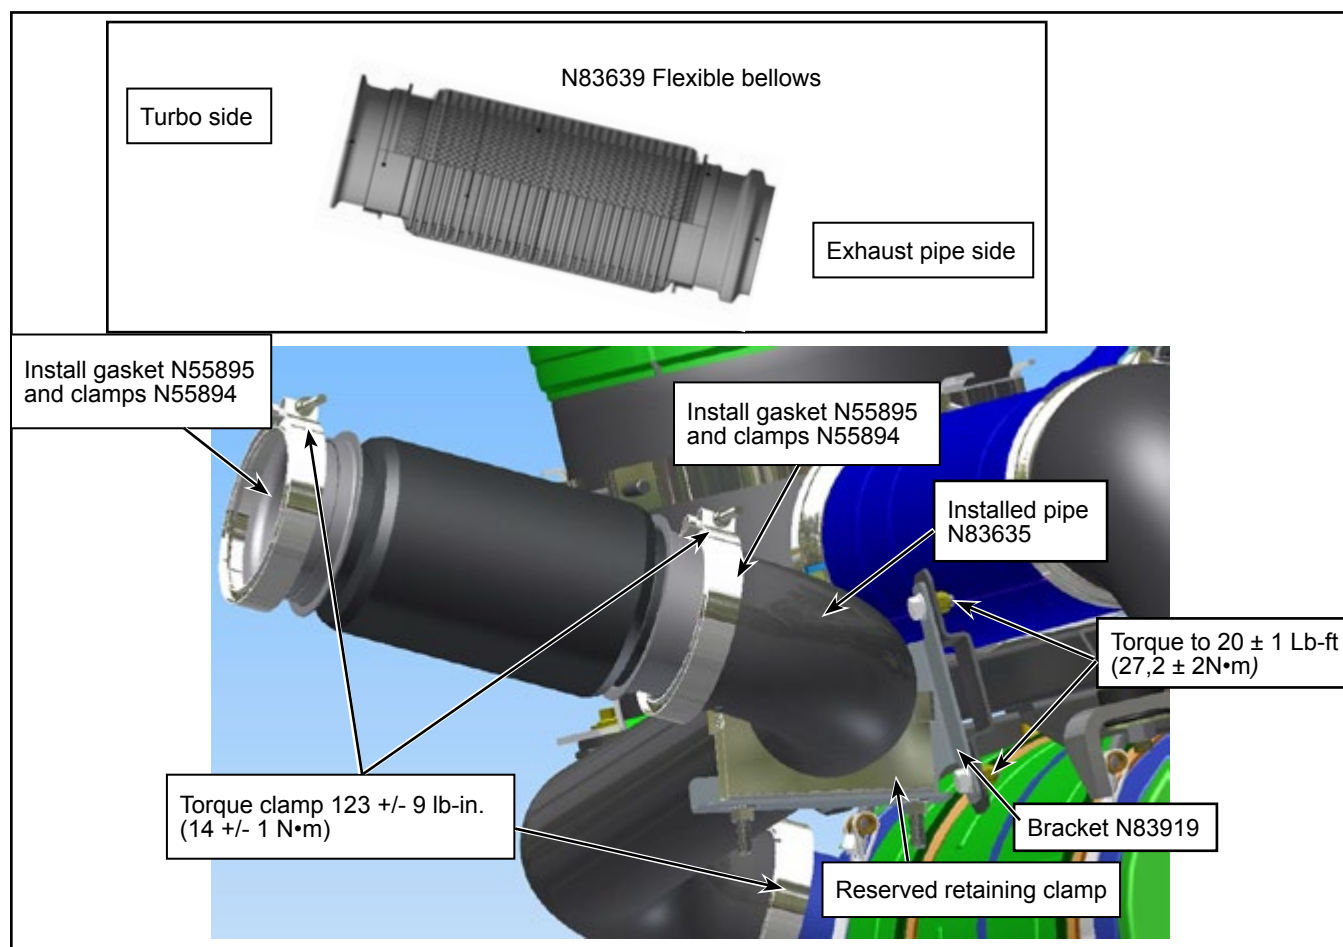

Figure 4 - Installation of the Flexible Bellows
- 1.10. Affix flexible bellows N83639 to the exhaust pipe and engine turbo with N55894 clamps and N55895 exhaust gasket. See Figure 4.
- 1.11. Affix the exhaust pipe N83635 to N83919 bracket with the retained clamp and hardware. See Figure 4.
- 1.12. Torque exhaust clamps N55894 and support hardware. See Figure 4 for torque value.